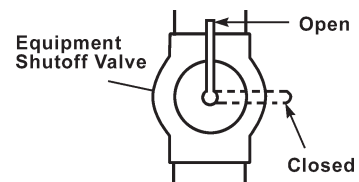

Figure 8 - Equipment Shutoff Valve
1. Close equipment shutoff valve (see Figure 8).
1. Open equipment shutoff valve (see Figure 8).